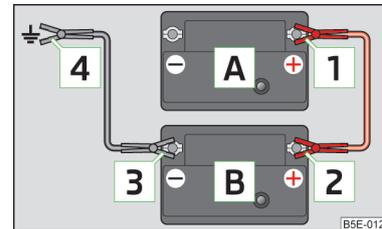

Fig. 146
- Attach clamp **1** to the positive terminal of the discharged battery **A** » Fig. 146.